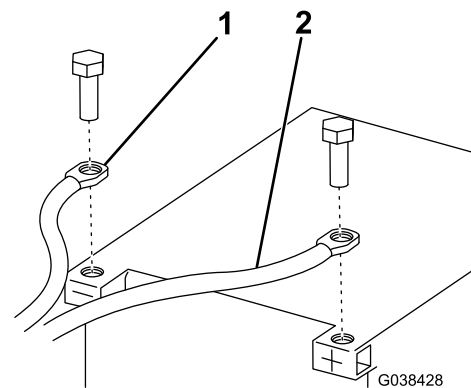

Figure 11
13. Connect the black power/ground cable to the negative (-) battery terminal (Figure 11).
14. Connect the red power/ground cable to the positive (+) battery terminal (Figure 11).